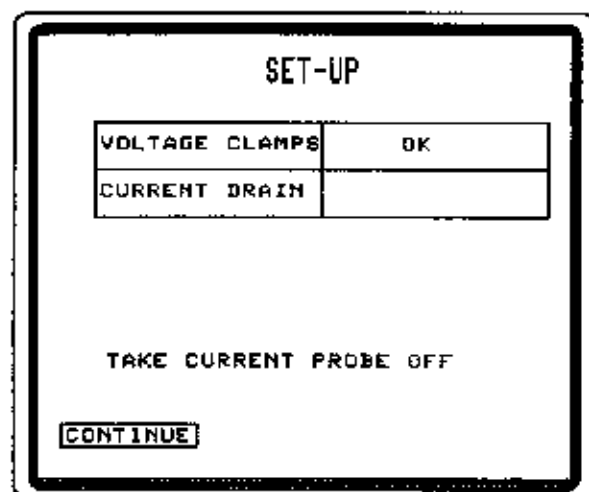

Figure 88
2. The Battery Test Set-Up screen appears (see Figure 88). The analyzer checks battery clamp connections, zeros the current probe, and shows vehicle's battery drain.